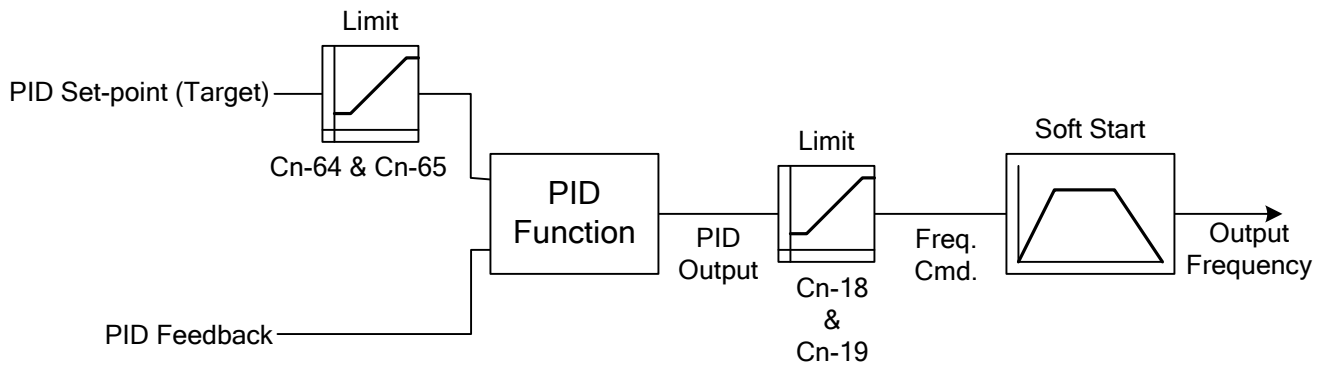

Fig. 1.3.3 Cn-64 & Cn-65 and Cn-18 & Cn-19 Limits
- The parameters Cn-64 (PID Target Upper Limit) and Cn-65 (PID Target Lower Limit) limit the value of the PID set-point (target) signal. The actual frequency command is limited by parameters Cn-18 (Frequency command upper bound) and Cn-19 (Frequency command lower bound). This is shown in Fig. 1.3.3 below.